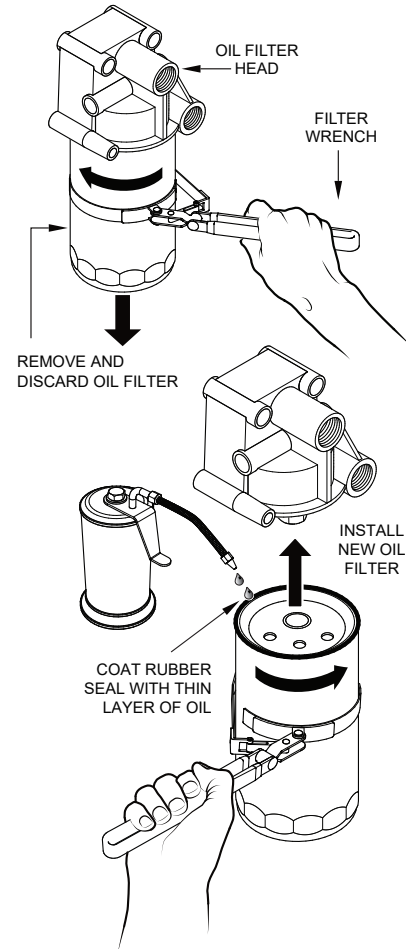

Figure 75. Oil Filter Removal
2. Using an oil filter wrench (Figure 75), remove the engine oil filter.
3. Coat the rubber seal (gasket) surface of the oil filter (Figure 75) with clean 15W-40 engine oil.